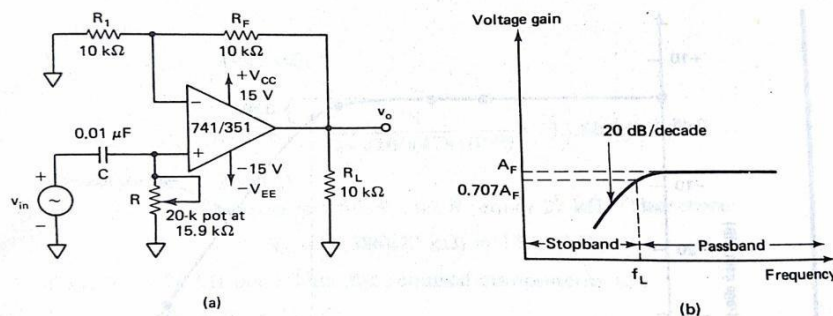

Figure 8-6 (a) First-order high-pass Butterworth filter. (b) Its frequency response.
- Figure 8.6 shows a first order high pass Butter worth filter with a low cut off frequency of f_L . This is the frequency at which the magnitude of the gain is 0.707 times its pass band value.